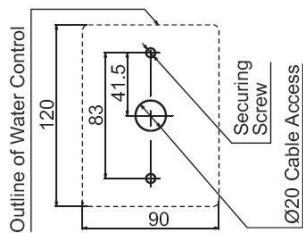

Fig. 1
2. Drill 3 holes in the wall (Fig.1), one for the cable and two for the securing screws. Fit wall plugs if needed and ensure controller is level.
2. Remove the protective cap from the 3 pin connector marked EZ Connect located in the wiring harness of the Primary Unit. (Fig. 1)
4. Check gas type switches no.1 and no.2 of Dip SW2 are in the correct position for the type of gas used. See Fig. 1